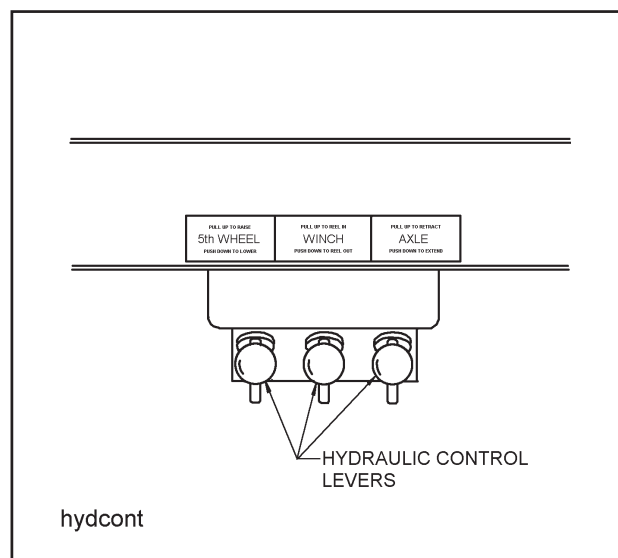

Figure 3-2 Hydraulic Control Levers
- 3-1.2** The king pin plate should be the same height as, or slightly lower than, the latch area of the fifth wheel plate of the tractor. If necessary, connect the tractor hydraulic lines or start the trailer hydraulic power engine. Use the **TRAILER TILT (5TH WHEEL)** lever (See Figure 3-2) to raise or lower the kingpin plate sufficiently to allow proper coupling. Drain all air and moisture from the tractor air brake system in accordance with the tractor manufacturer's instructions.
- 3-4.1** While hydraulic power is operating, raise the front end of the semitrailer with the **TRAILER TILT (5TH WHEEL)** lever (See Figure 3-2) until weight is off the landing gear. Raise landing gear. Secure each leg with a park stand retaining pin in fully retracted position before transporting.
The **TRAILER TILT (5TH WHEEL)** lever is located on the driver's side of the semitrailer under the outer frame beam. (See Figure 3-2) It has three positions:
The **AXLE CONTROL** lever (See Figure 3-2) is the control on the rear with three positions:
3-10.1 The **HYDRAULIC GEARBOX (WINCH) CONTROL** lever (See Figure 3-2) is the center lever. It is a three position control: